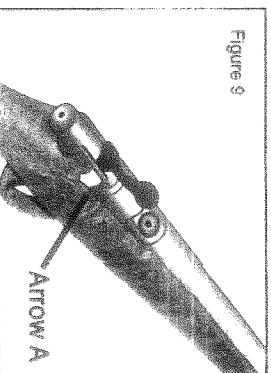

Figure 9
1. Cycle the Bolt Handle to the open and back position. Then, as per arrow "A" press down on the bolt handle (Figure 9).